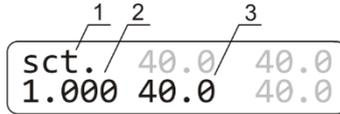

Figure 4. Display in calibration mode: 1. Calibration mode indicator; 2. Calibration coefficient; 3. Temperature with current coefficient
6.2. To change the calibration coefficient, hold the **TIME RUN/STOP** key pressed for more than 8 s to activate calibration mode. The calibration coefficient appears on the display (figure 4).
Note. Values marked in grey on figures 4 and 5 are not used in calibration and are meant for service engineers.
6.3. **Restoring factory settings.** Set 1.000 value using the ▲ and ▼ T, °C keys as shown on fig. 4/1 to restore the factory settings. Press the ►/■ **RUN/STOP** key once to save the changes and exit the calibration mode.
6.4.5. Hold the **TIME RUN/STOP** key pressed for more than 8 s to activate calibration mode (figure 4).